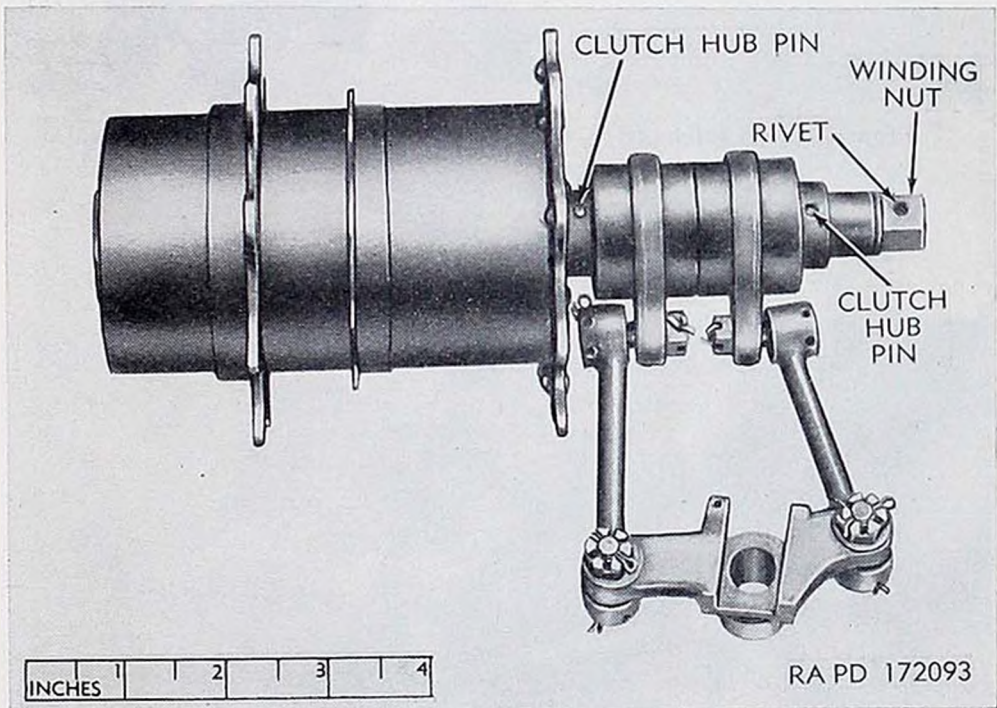
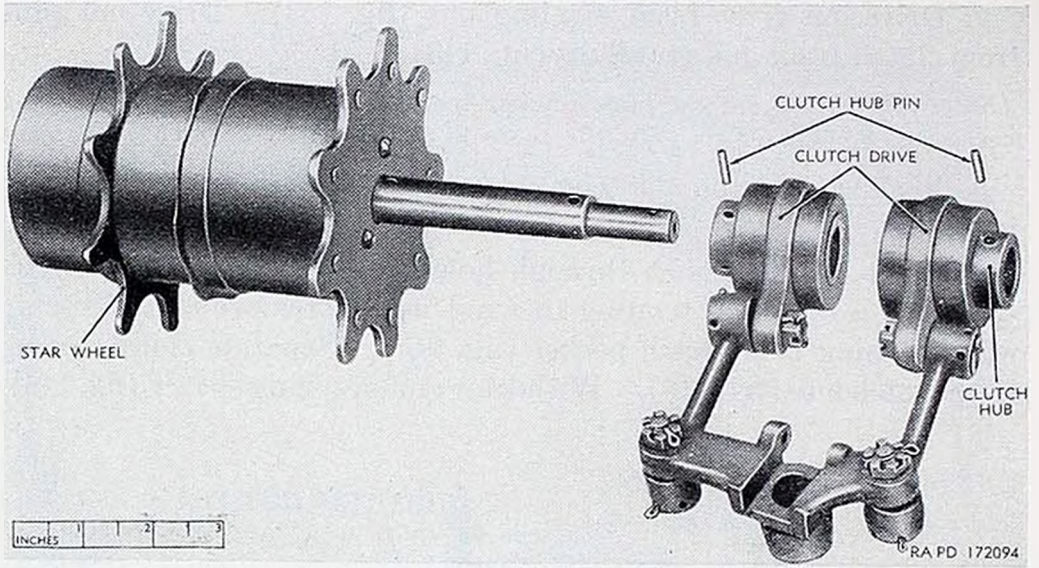

Figure 143. Clutch drive and driving mechanism group.
Figure 144. Clutch drive disassembled from driving mechanism.
g. Drive out rivet from winding nut (fig. 143). Drive out pins from clutch front and rear hubs (fig. 143).
h. Remove winding nut (fig. 143). Slide off clutch drives (fig. 144), with links and operating crank as a unit.